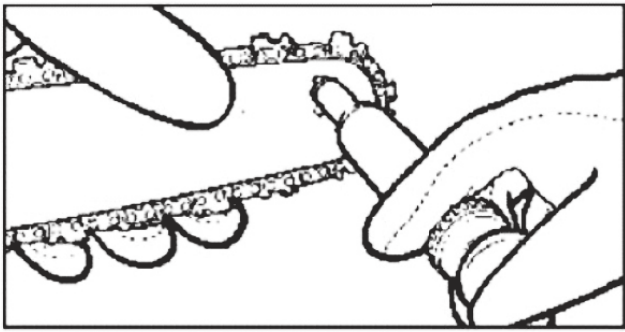

Fig.6
3. Using disposable Lube gun, insert needle nose into the lubrication hole and inject grease until it appears at the outside edge of the sprocket tip (Fig.6).